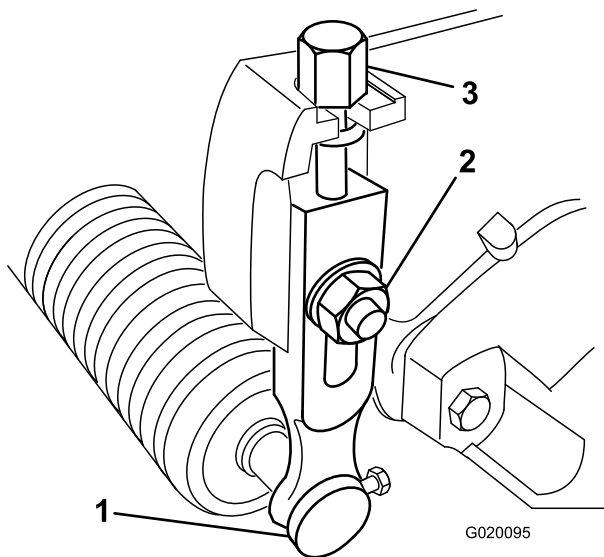

Figure 8
1. Loosen the locknuts securing the height-of-cut arms to the cutting unit side plates (Figure 8).